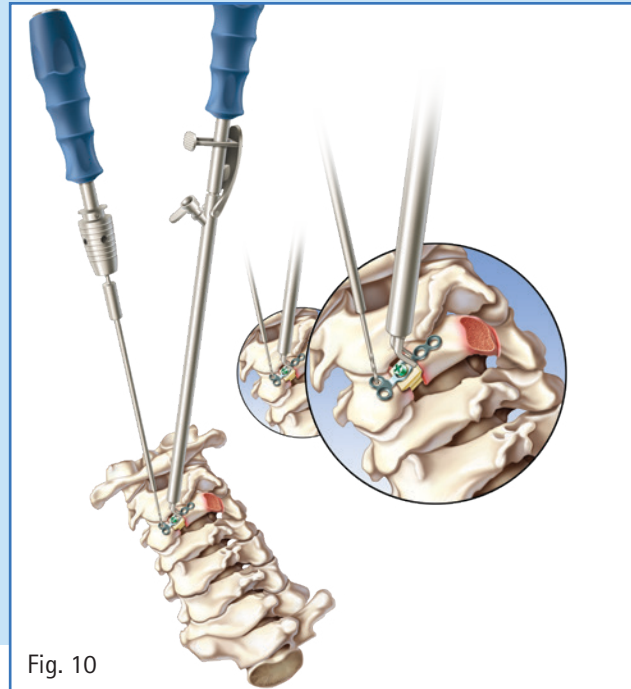

Fig. 10
- A. Drill Holes into the proper location on the lateral mass. Next drill holes on the lamina (Fig. 10).